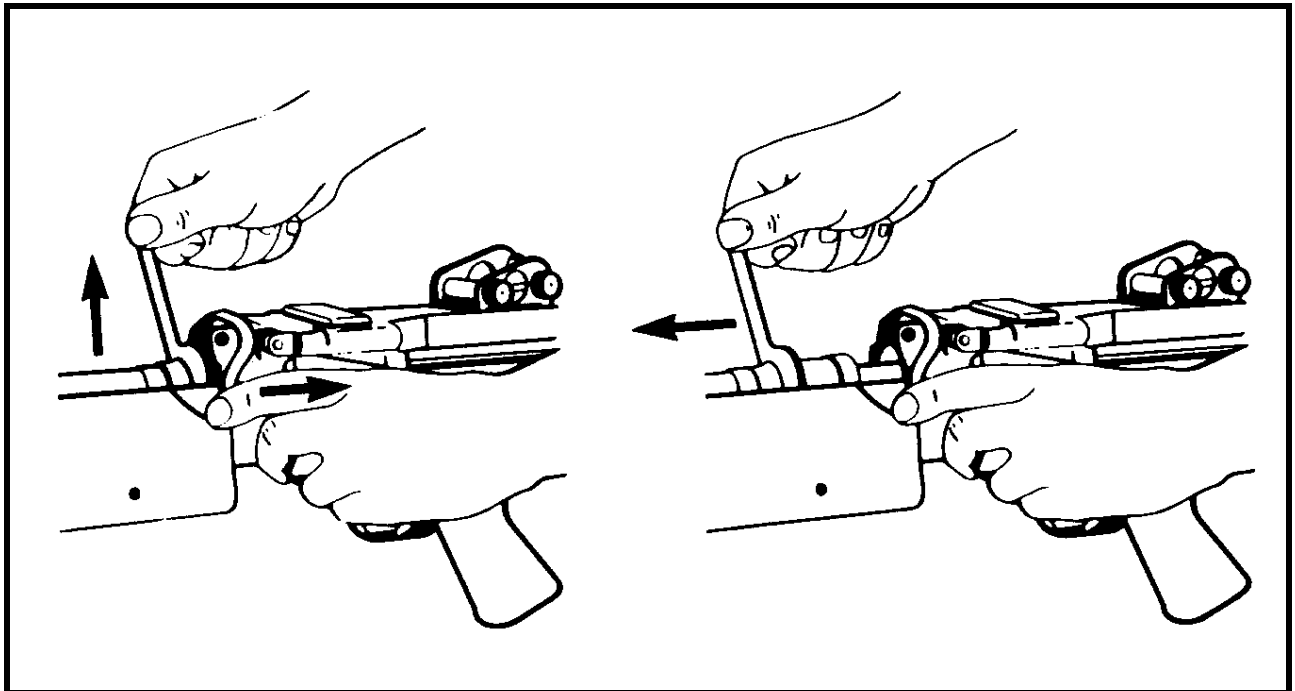

Figure 2-15 Barrel removal
- (1) Pull the barrel locking lever backward with the left hand.
- (2) Grasp the carrying handle with the right hand and lift the barrel forward out of the receiver (see Figure 2-15).